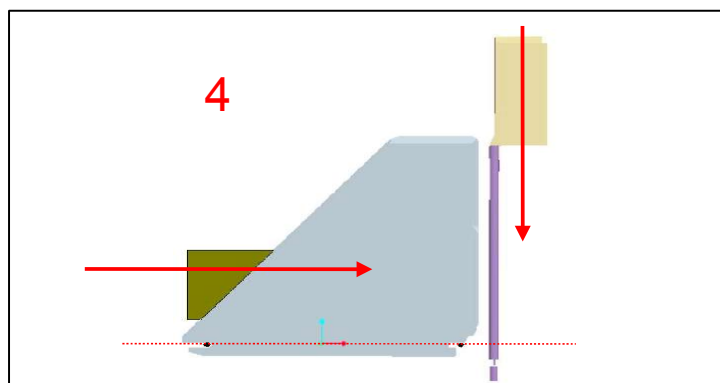

Fig.5 Assembly of aluminum fin and rudder
- 5a. Tap gently with a hammer to fasten the rear interlocking fork of the fin to the locking pin on the mast step (always with Teflon or wood between the fin and hammer, as shown in Figure 5).
- 4b. Tap gently with a hammer to attach the rear fork of the fin to the locking pin on the mast step using Teflon or wood between the fin and hammer (see Figure 5 and read the recommendations listed at right).